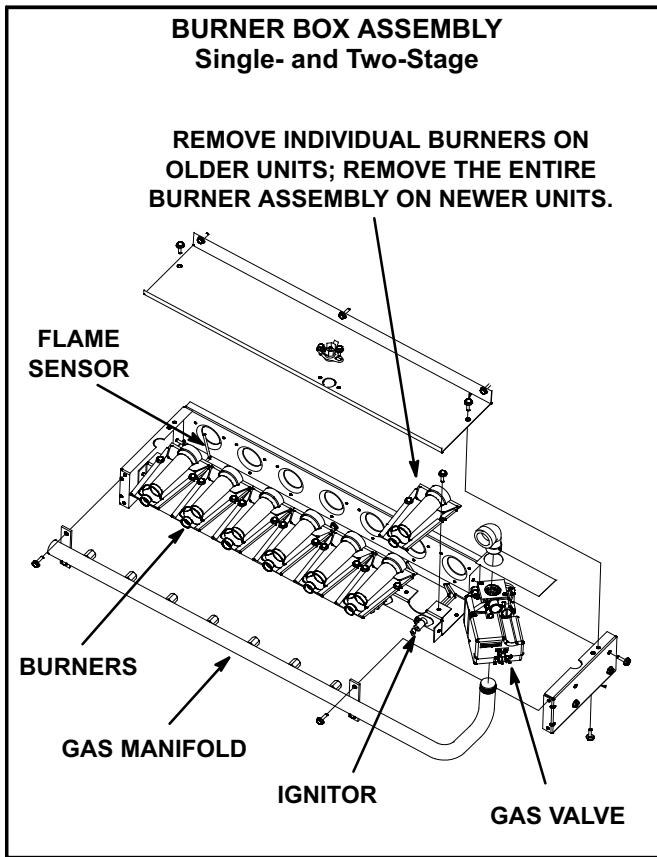

FIGURE 31
- 4- Remove screws securing burners to burner support and lift the individual burners or the entire burner assembly from the orifices. See figure 31 or 32. Clean as necessary.